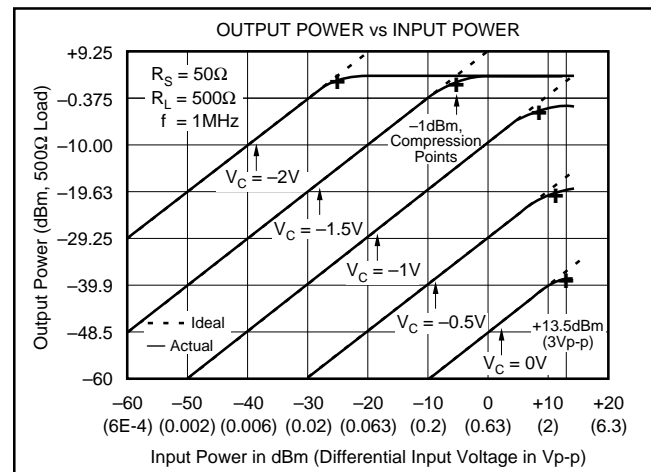

FIGURE 2. Input and Output Range.
NOTES: (1) See Input/Output Range discussion in the Applications Information section (Figure 2). (2) Gain is laser trimmed and tested at control voltages of 0V to -2V in 200mV steps; $V_{IN} = 1V_{p-p}$ for $V_C > -1V$ gains less than 0dB; $V_{OUT} = 1V$ for $V_C < -1V$. (3) Output offset change from offset at $V_C = 0V$. (4) Gain = +40dB; Input step of 2V to 2mV; time required for output to return from saturation to linear operation. (5) $V_{IN} = 7mV_{p-p}$, $V_{OUT} = 700mV_{p-p}$ (250mVrms); Output Power = -10dBm/line, equal amplitude tones of 5MHz $\pm 500Hz$, $V_C = -2V$. See Typical Performance Curves. (6) With $R_S = 0\Omega$, and noise bandwidth of 1MHz. $IDR = 20 \log(V_{ORMS}/(e_{ORMS} \cdot \sqrt{BW}))$ where V_{ORMS} is rms output voltage, e_{ORMS} is output noise spectral density, and BW is noise bandwidth.
The VCA610's 77dB gain range allows the user to handle an exceptionally wide range of input signal levels. If the unit's input and output voltage range specifications are exceeded, however, signal distortion and amplifier overloading will occur. The VCA610's maximum input and output voltage range is best illustrated in Figure 2.
Figure 2 plots output power versus input power for five voltage gains spaced at 19.25dB intervals. The 1dBm compression points occur where the actual output power (solid lines) deviates by $-1dBm$ from the ideal output power (dashed lines). Compression is produced by different mechanisms depending on the selected gain. For example, at $G = -38.5dB$ ($V_C = 0$), 1dBm compression occurs when the input signal approaches approximately 3Vp-p (13.5dBm for $R_S = 50\Omega$). Input overloading is the compression mechanism for all gains from $-38.5dB$ to about $-5dB$. For gains between $-5dB$ and $+5dB$, the compression is due to internal gain stage overloading. Compression above a gain of $+5dB$ occurs when the output signal becomes distorted as internal gain stages become overdriven. At $G = 0dB$, 1dBm compression occurs when the input exceeds approximately 1.5Vp-p (7.5dBm). At gains greater than about 5dB, the compression mechanism is due to output stage overloading.
As shown in Figure 2, the onset of overload occurs whenever the actual output begins to deviate from the ideal expected output. If possible, the user should operate the VCA610 within the linear regions shown in order to minimize signal distortion and overload delay time. However, instances of amplifier overload are actually quite common in Automatic Gain Control (AGC) circuits which involve the application of variable gain to signals of varying levels. The VCA610's design incorporates circuitry which allows it to recover from most overload conditions in 200ns or less. Overload recovery time is defined as the time required for the output to return from overload to linear operation following the removal of either an input or gain-control overdrive signal.